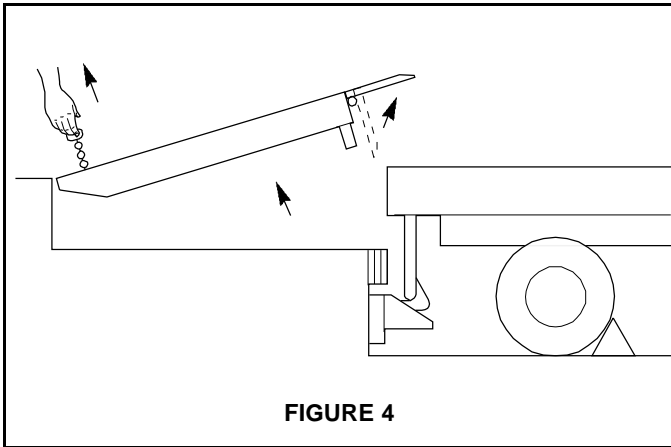

FIGURE 4
1. To service trucks with beds lower than the dock level, activate the leveler by pulling and holding the ramp control release lanyard until the platform is at the highest position and the lip is fully extended. Release the lanyard. See Figure 4.